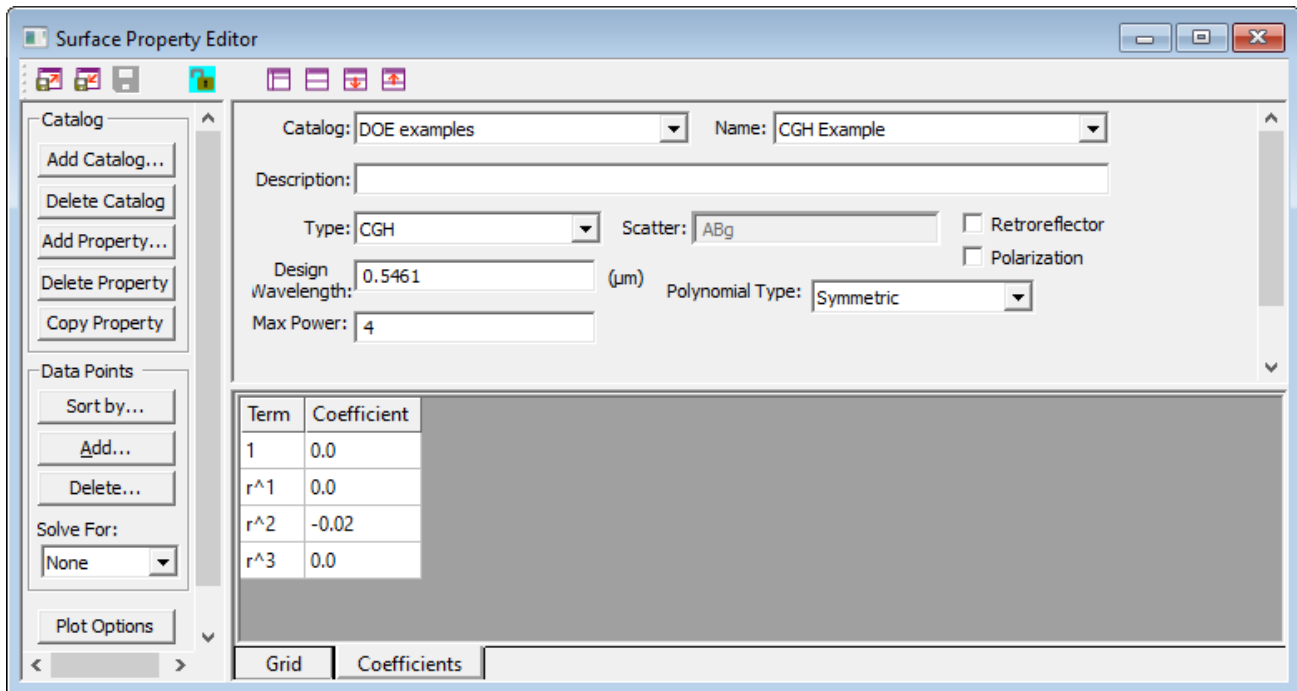

Figure 11. Example CGH surface property.
8. Select the **Coefficients** tab and enter -0.02 for the  $r^2$  term. The completed property should appear as in Figure 11. Save the property and close the **Surface Property Editor** window.